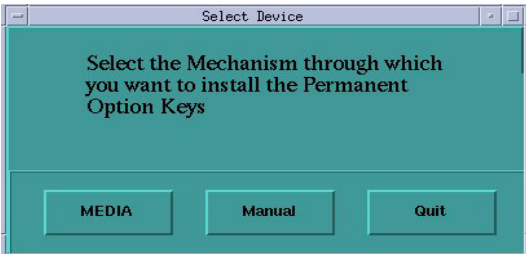

Figure 1-21 Select Device window
6.) Click PERMANENT. A Select Device (Figure 1-21) window opens. Select the mechanism through which you want to install the Permanent Option Keys.
Note: The Select Device illustration in Figure 1-21 is outdated — the new window displays selections for MEDIA, Manual, and Quit. Screen requires an update.